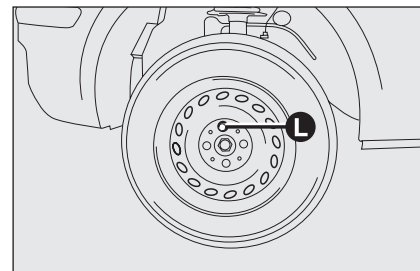

fig. 7
- ☐ remove the hub cap, fully unscrew the bolts **L-fig. 7** and remove the wheel;